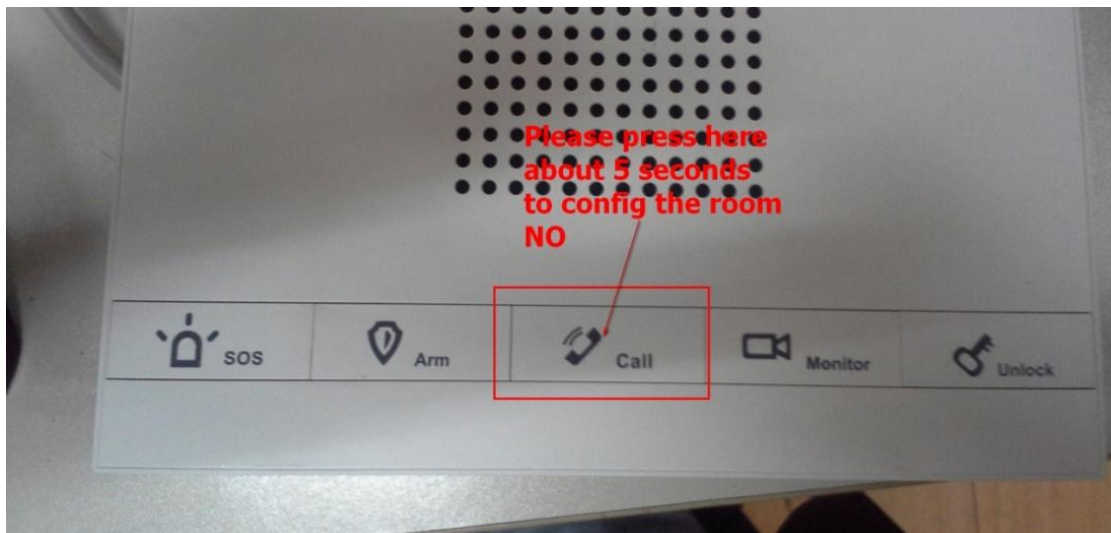

Figure 2-10
Step 4 After connecting, please press the Call button about 5 seconds to config the Room No.. See Figure 2-10.